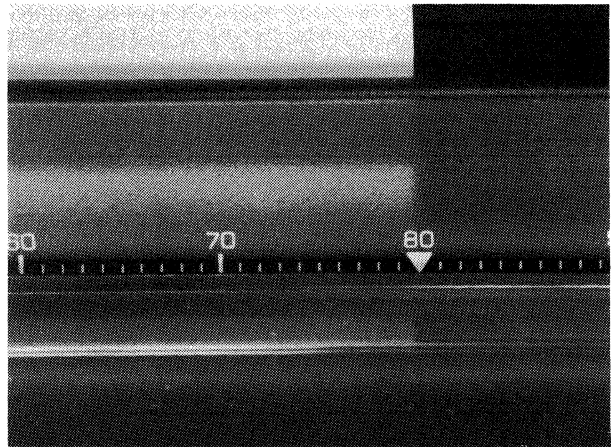

Figure 2-4B Inserting Sheet Paper
2. Insert the sheet paper into the paper slot (Figure 2-4B). Standard 8½ × 11" paper should line up with the 80 marker as shown.